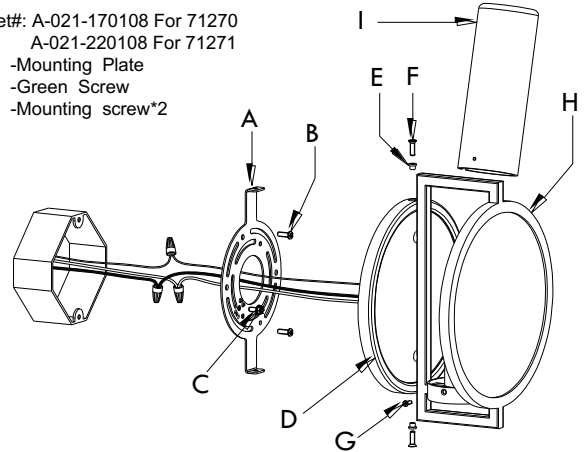

Fig.2
## CONNECTING THE WIRES (Fig.2)
4. Connect the electrical wires as shown in Fig.2, making sure that all wire connectors are secured. If your junction box has a ground wire (green or bare copper), connect fixture's ground wire to it. Otherwise, connect the fixture's ground wire directly to the mounting plate (A) using the green screw (C) provided.